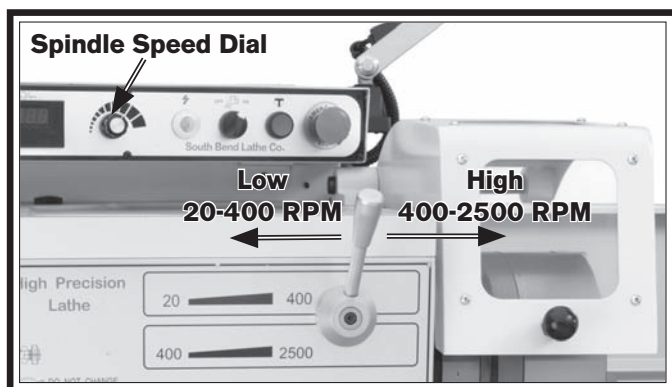

Figure 32. Spindle speed controls.
6. Turn the lathe **ON**, and let it run for ten minutes in each speed of 20, 200, and 400 RPM, using the spindle speed dial (**Figure 32**) to adjust the speed.